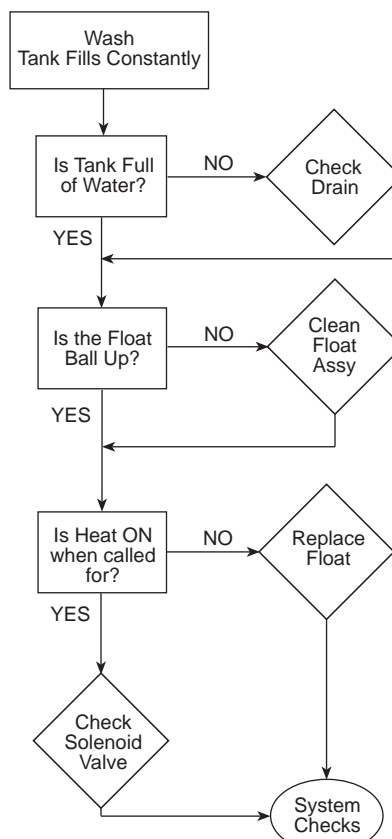

Figure 16
5. Refer to the float switch troubleshooting chart below (Fig. 16) for a quick guide to evaluating float switch problems.